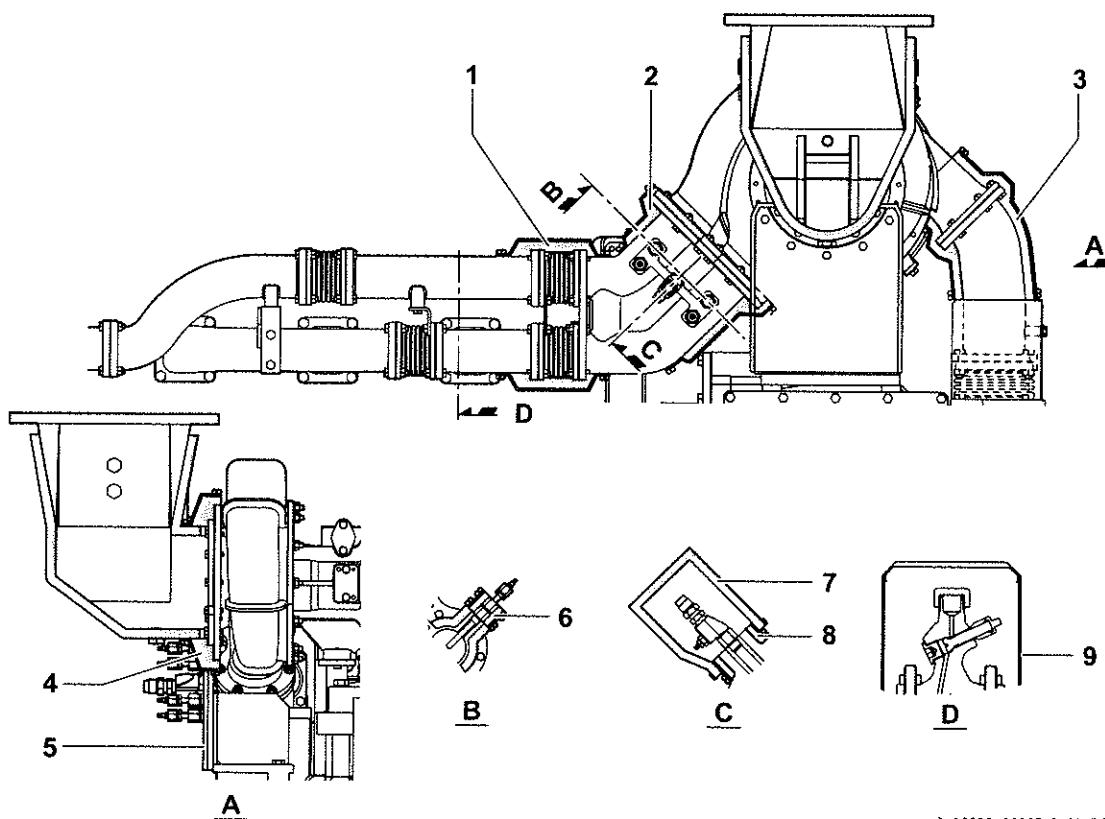

Fig.4 Fire-proof cover of the exhaust manifold
5. There is a fire-proof cover (lagging) at the locations shown in Fig. 4.